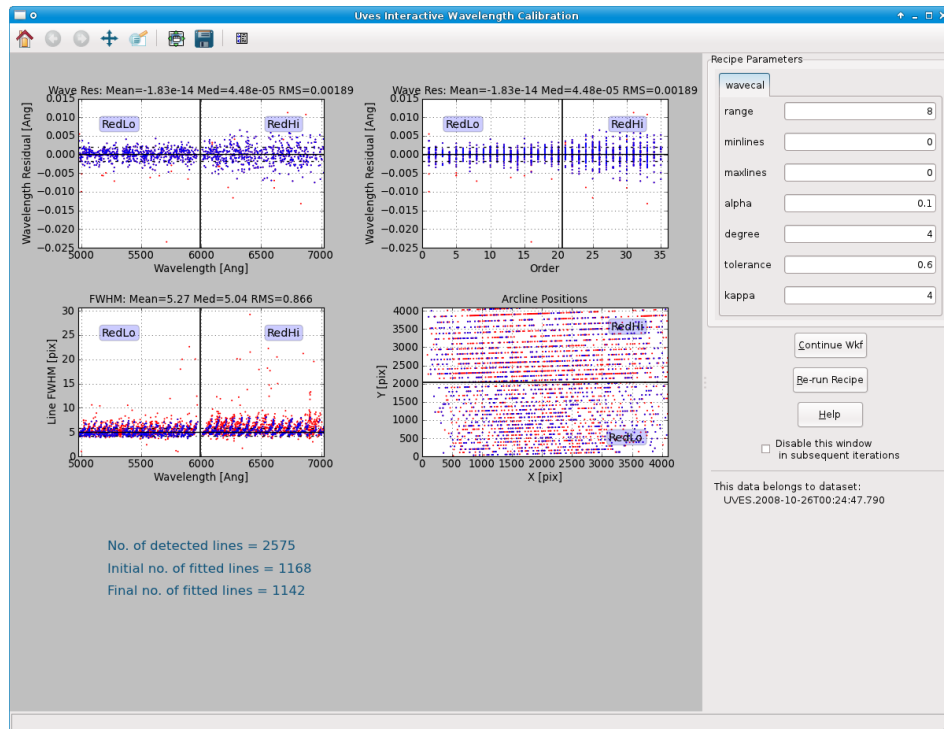

Figure 7.1: The interactive window for the Wavelength Calibration actor for the first DataSet in the data supplied with Reflex 2.3.
- Wavelength Calibration: The next interactive window that will appear (see Figure 7.1) is associated with the execution of the Wavelength Calibration actor, which executes the UVES pipeline